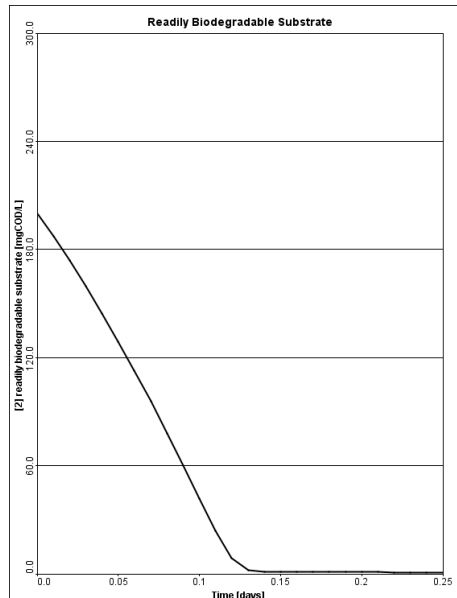

Figure 10-4 – Readily Biodegradable Substrate Output Graph
10. **Run a 0.25-day simulation** (make sure **Steady State** is **NOT** checked). Your output should match that of the graph in **Figure 10-4**.